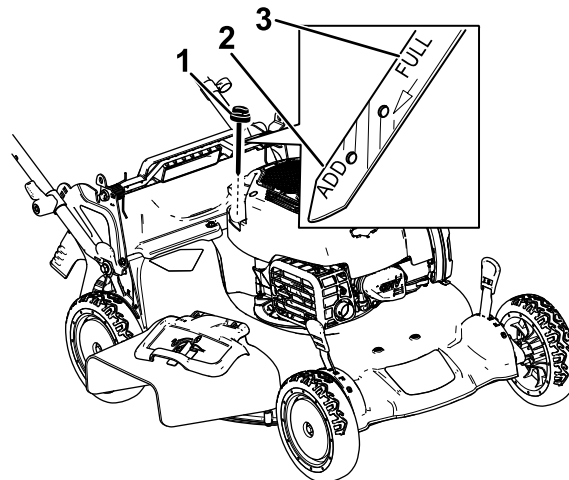

Figure 12
5. Read the oil level on the dipstick (Figure 12).
- If the oil level on the dipstick is too low (Figure 12), carefully pour a small amount of SAE 30 or SAE 10W-30 detergent oil into the oil-fill tube, wait 3 minutes, and repeat steps 3 through 5 until the oil on the dipstick
- If the oil level on the dipstick is too high (Figure 12), drain the excess oil until the oil on the dipstick is at the correct level; refer to Changing the Engine Oil \(page 21\).